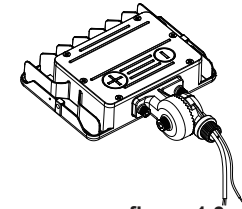

figure 1.3
- Step 4: finished. (figure 1.3)